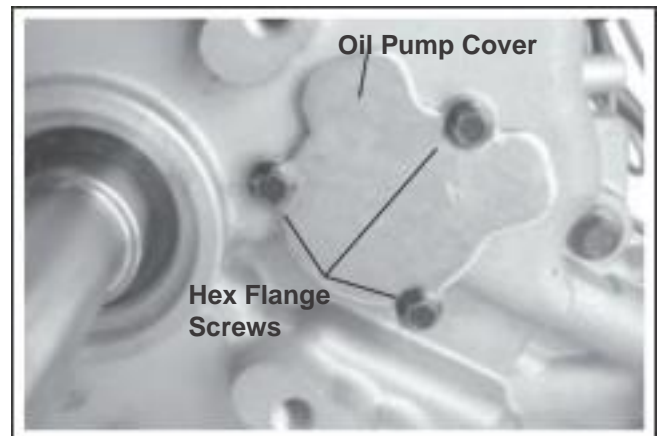

Figure 11-22. Installing Oil Pump Cover.
3. Install the oil pump cover (machined side toward O-Ring). Secure with three hex flange screws. See Figure 11-22.